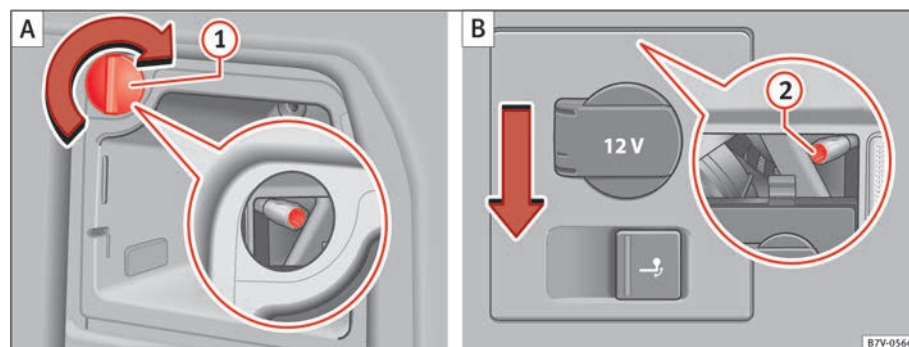

**Fig. 210 On the boot lid:
5. Press on the attachment tabs in the direction of the arrow ⇒ fig. 210 and pull out the lamp holder.